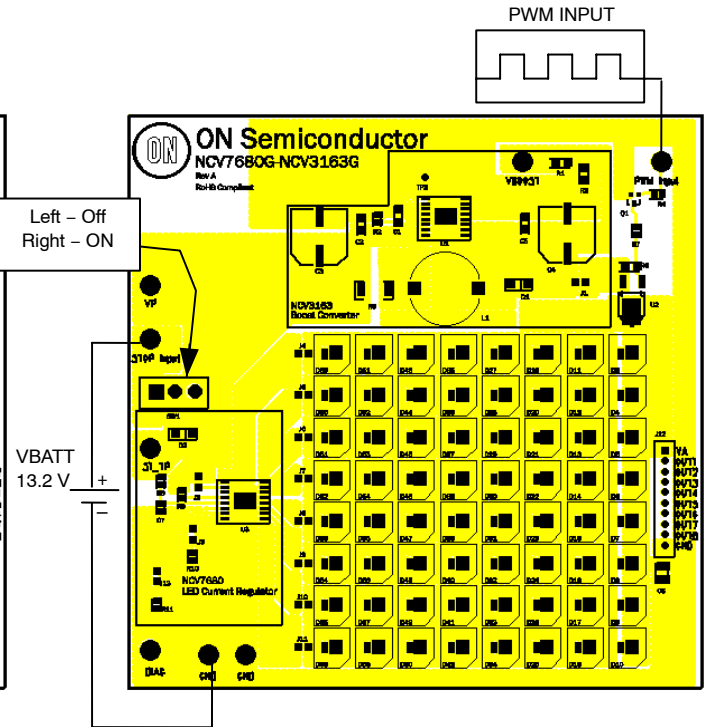

Figure 4. Power Connections
2. Typical connections to the evaluation board are shown in Figure 4. Set the PWM input to a 200 Hz 5 V square wave when using external PWM. To disable PWM and run at 100% duty cycle, connect PWM Input to VP.